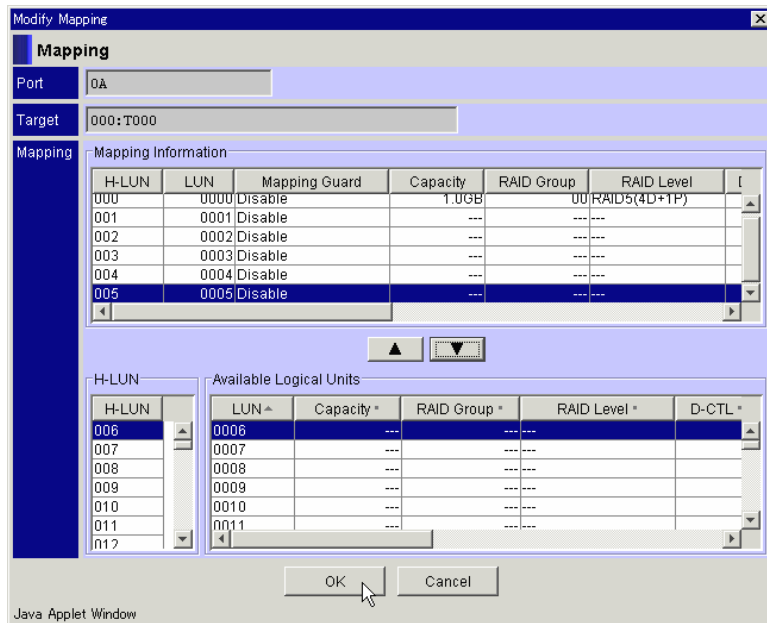

Figure 8.10 Modify Mapping - Mapping Information
5. Select one H-LUN to be added. Select LUN, and click . The added contents display in the **Mapping Information** list. See Figure 8.10.